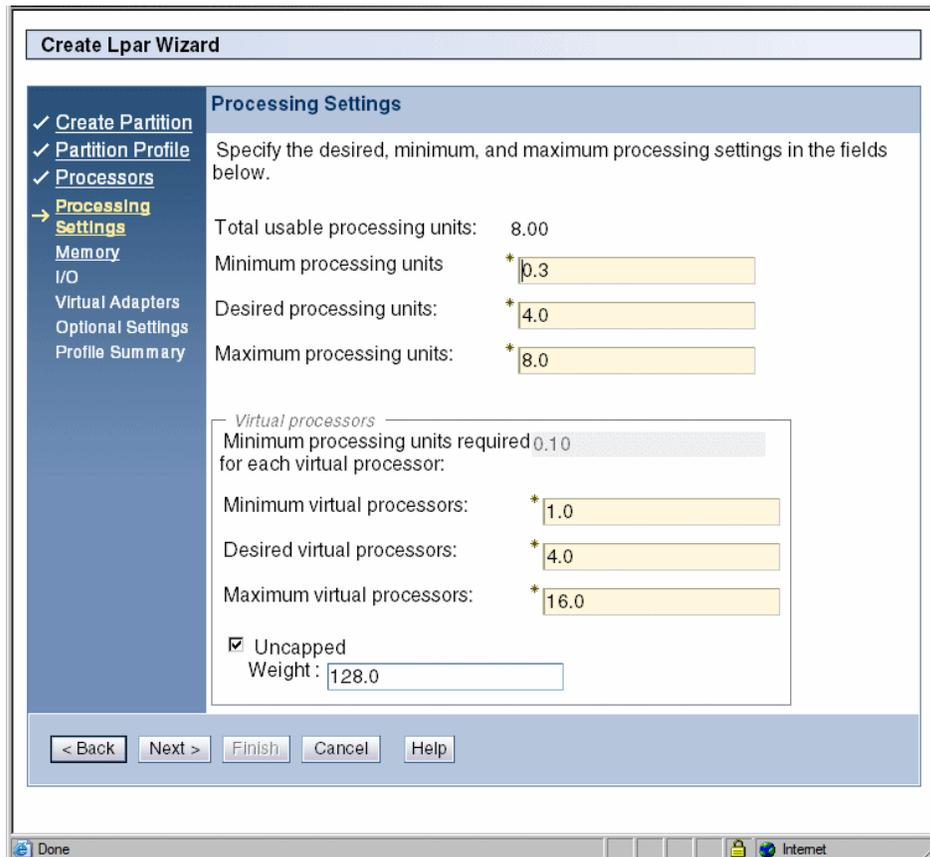

Figure 7-10 Shared partition settings
- Specify the processing units for the partition as well as any settings for virtual processors, as shown in Figure 7-10. The sections that immediately follow this figure discuss the settings in this figure in detail.